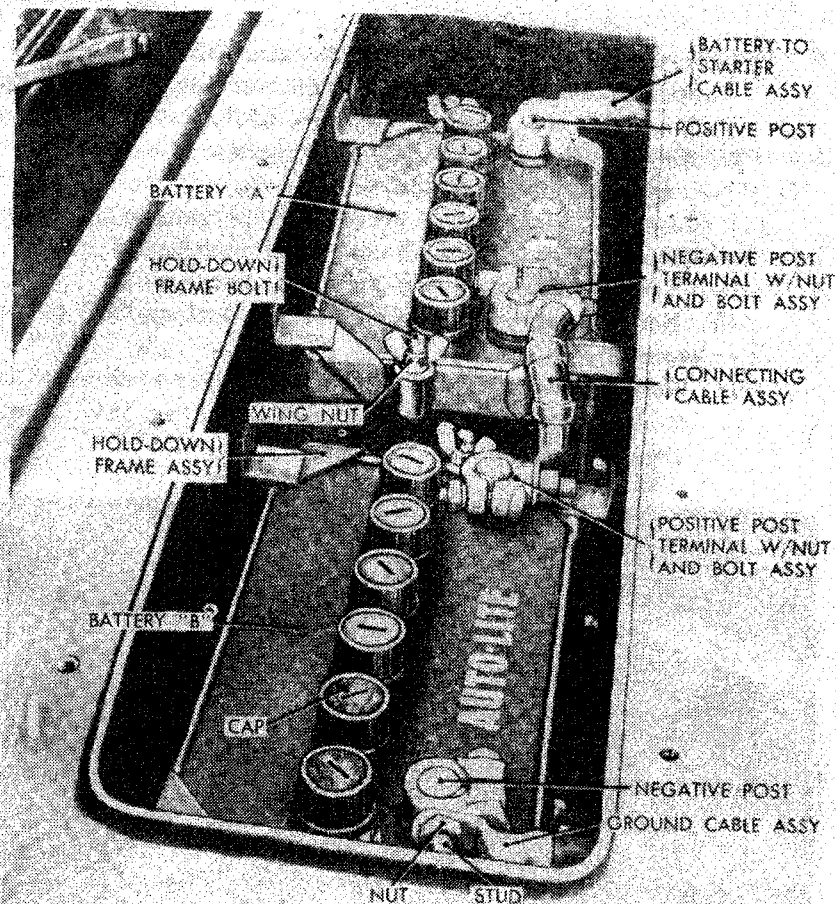

Figure 99. Batteries installed—batteries cover removed.
- (2) *Batteries (fig. 99).* The 24-volt primary circuit is supplied by two 12-volt lead- and acid-type storage batteries, connected in series. The batteries and connections are designed for under water operation. The batteries compartment is in front of the dash on the right side of the vehicle.
(5) *Battery "B" removal* (fig. 99). Battery "B" removal is the same as battery "A" removal ((4) above).
(a) Lower battery "A" (fig. 99) into batteries compartment with the positive post facing left side of vehicle (see Caution (4) (d) above).
(7) *Battery "B" installation* (fig. 99). Battery "B" installation is the same as battery "A" installation ((6) above).